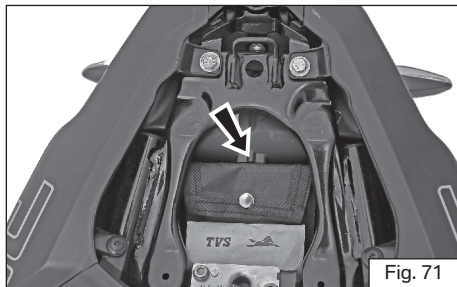

Fig. 71
- ♦ The tool kit (A, ref. Fig. 71) is located below the pillion seat (ref. page 53 for seat removal procedure).